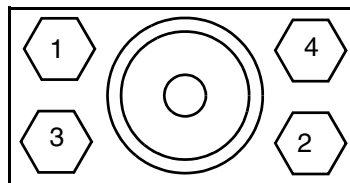

Figure 2. Bonnet Bolt Torquing Sequence
6. Tighten all bonnet bolts to 2.8 N•m (2 lb•ft) per the sequence shown in Figure 2.
6. Tighten all bonnet bolts in steps of 1.4 N•m (1 lb•ft) up to 2.8 N•m (2 lb•ft) per the sequence shown in Figure 2.